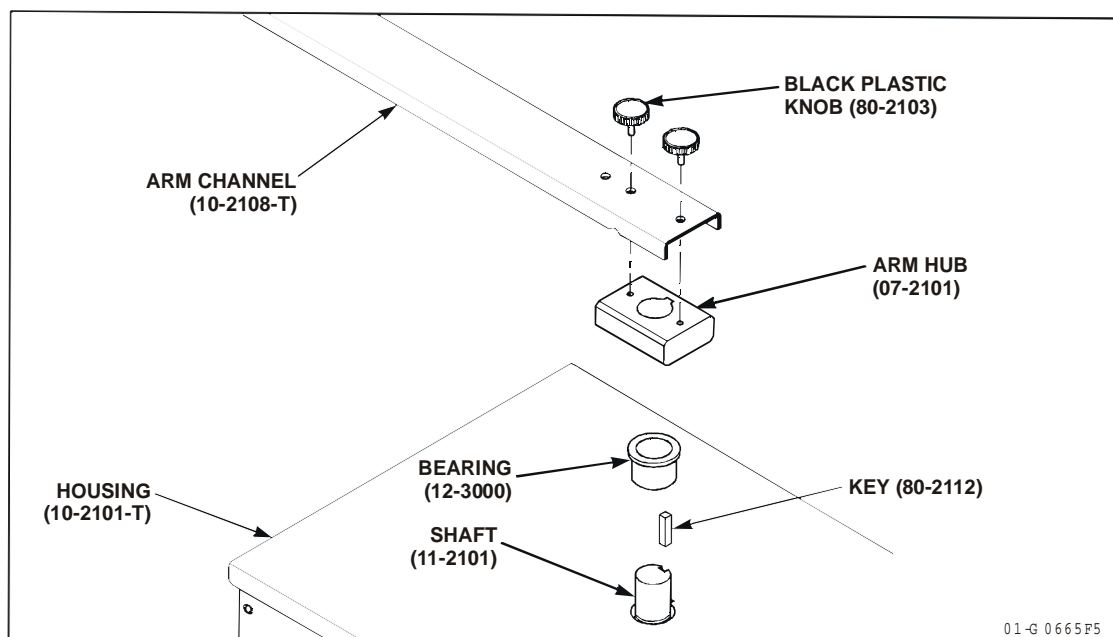

Figure 10
- 4 **Model SW 470:** Set the control arm stops on the operator in the positions appropriate for the installation. Then install the control arm and hub assembly to the operator output shaft. Attach control arm extension to arm hub with $\frac{1}{4}$ -20 black plastic knobs provided as shown in Figure 10. Place hub onto shaft with key and secure using set screw. Be sure rubber seal is on end of hub to keep water out of bearing.